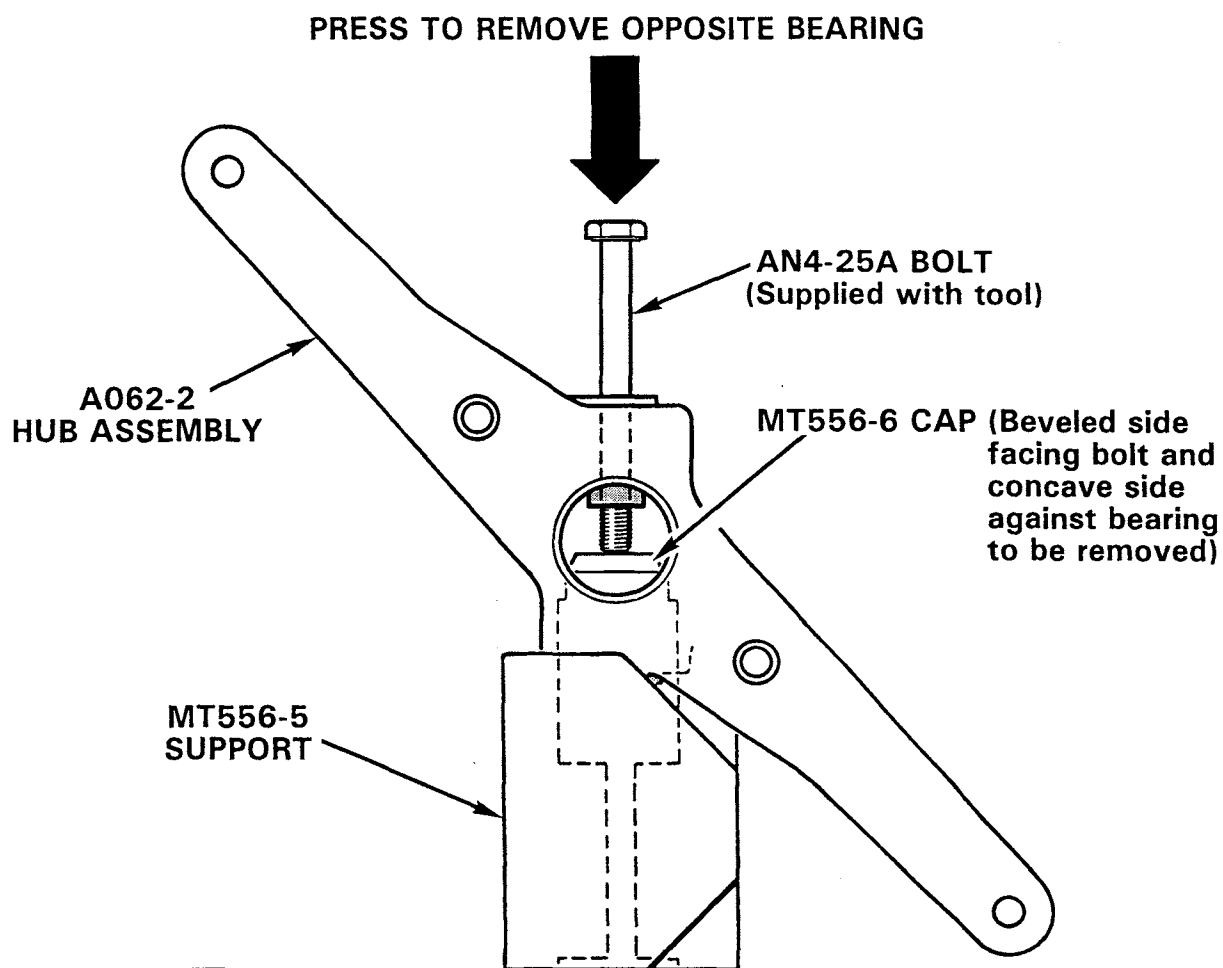

FIGURE 9-13C ELASTOMERIC BEARING REMOVAL
3. See Figure 9-13C. Using special tool MT556, press out worn bearing.